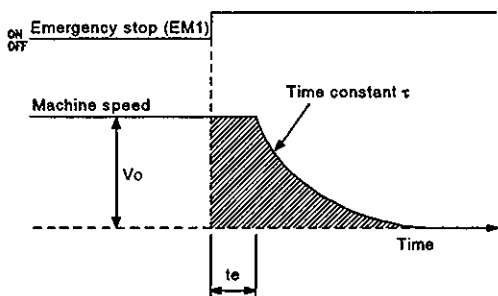
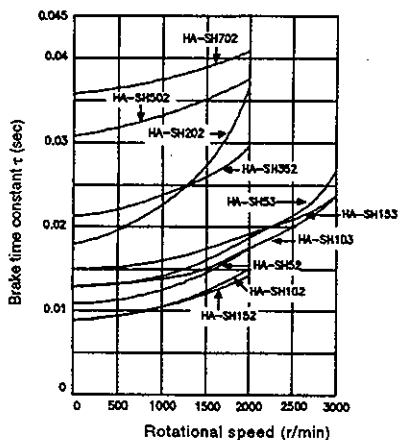

Figure 1 Dynamic Brake Braking Diagram
Figure 2 Dynamic Brake Time Constant (HA-SH)
On occurrence of a power interruption or emergency stop the dynamic brake unit operates and the servo motor executes a rapid stop. When this happens the machine decelerates to a stop as shown by the pattern in Figure 1. The maximum coasting distance (at rapid feed speed) when the dynamic brake operates is the area of the shaded part in Figure 1 and can be roughly calculated using the following expression (2-1). The effects of load torque are greater near the region of the stop, and when the load torque is large, the motor will stop earlier than calculated by this expression. The brake time constant τ in the expression (2-1) changes in accordance with the motor rotation speed at emergency stop, as shown in Figures 2 through 4.
- τ : Brake time constant (Figures 2, 3, 4, Table 1) [sec]